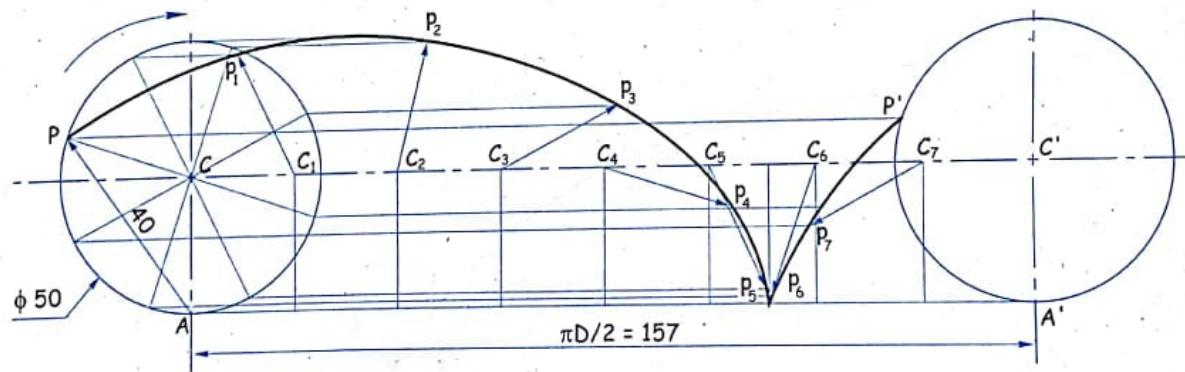

FIG. 2.7 (b)
**Hint 1 :** Figure 2.7 (a). Locus of point 'A' will be the centres and with radius equal to 40 mm, cut the arcs on the circumference of a corresponding circle.